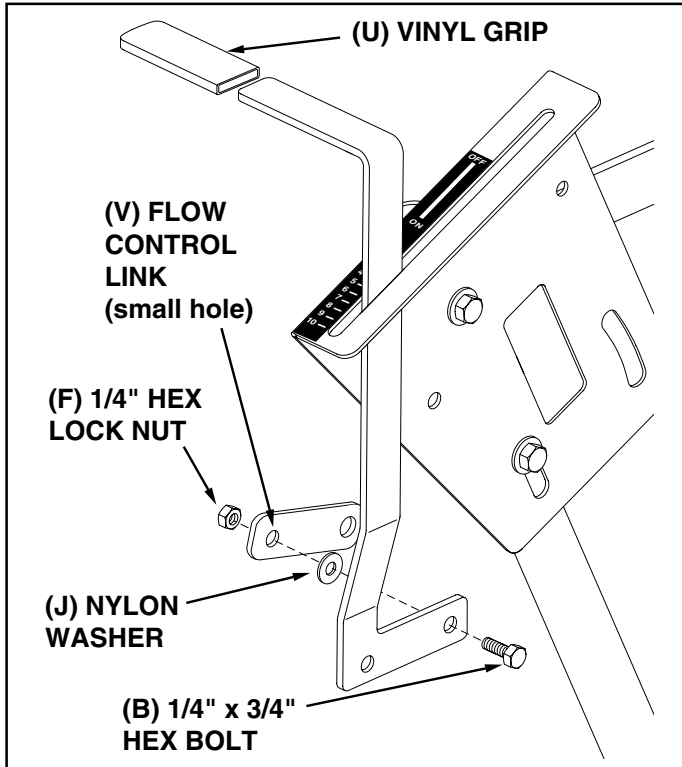

FIGURE 7
- Assemble the vinyl grip (U) onto the flow control arm. See figure 7.
- Insert the flow control arm down through the slot in the flow control bracket. Assemble the small hole of the flow control link (V) to the flow control arm using a 1/4" x 3/4" hex bolt (D), a nylon washer (J) and a 1/4" hex lock nut (F) as shown in figure 7. **Tighten carefully.** The flow control link should be snug but should pivot with no more than slight resistance.